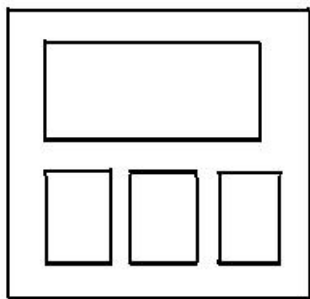

Figure 1
5. Lay out panel and mark with three $\frac{1}{2} \times \frac{3}{4}$ inch rectangles and one hole $1 \frac{1}{4} \times \frac{3}{4}$ inch. You can select you own figuration. Figure 1.